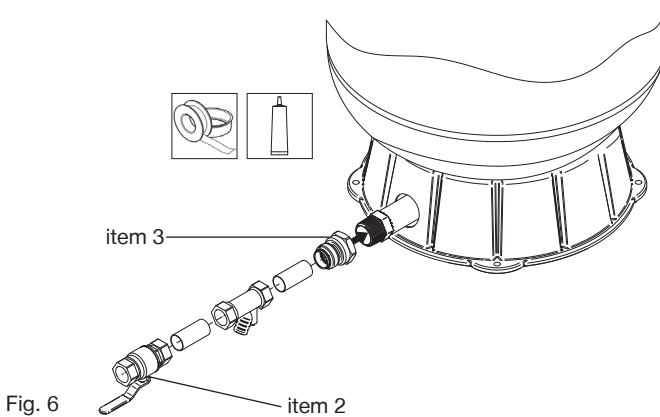

Fig. 6
- a) Screw the SuperStream vessel connector (item 3) provided in the upsteam kit on to the tank inlet pipe at the base using suitable thread seal such as PTFE tape or liquid thread lock (see Fig. 6).